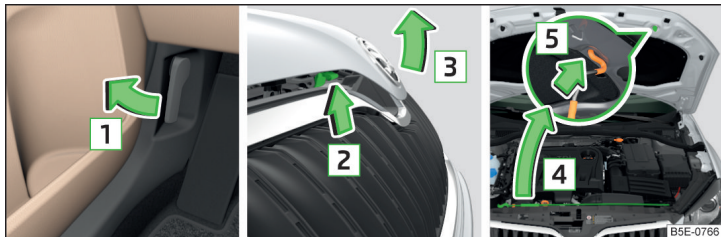

Fig. 166 Opening the bonnet
- Pull the release lever underneath the dash panel in the direction of the arrow 1 » Fig. 166.
Never open the bonnet by the locking lever » Fig. 166.